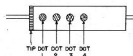

Fig. 66b. Molded Paper Capacitors:
b. Molded Paper Dielectric Capacitors. A new AWS color code for small molded paper dielectric capacitors is shown in Fig. 66b. Although this code has found little application to date, it is possible that some units so marked may be encountered in future equipment or stocks. Like the code for mica capacitors just discussed, it employs six colored dots, together with an arrow to indicate the sequence. Units marked according to this system can readily be identified by the fact that both the first and fifth dots are always silver. The other dots are used as follows: the second dot gives the first digit of the capacitance in micromicrofarads; the third dot gives the second significant figure; the fourth dot indicates the decimal multiplier; the sixth tells whether the unit has a maximum operating temperature of 167 degrees or 185 degrees Fahrenheit.